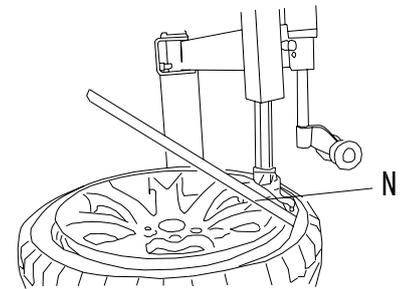

Fig 18
3. Nearby demount/mount head, insert lift lever N into tyre, use lift lever to lift bead upon knob of demount / mount head. Manually rotate roller C to inner side, pull handle D down, make roller C to press rim, keep 3-5mm gap between demount/mount head and rim, make sure demount/mount head not damage rim, rotate tire installation base, demount tyre upper bead (Fig 18)